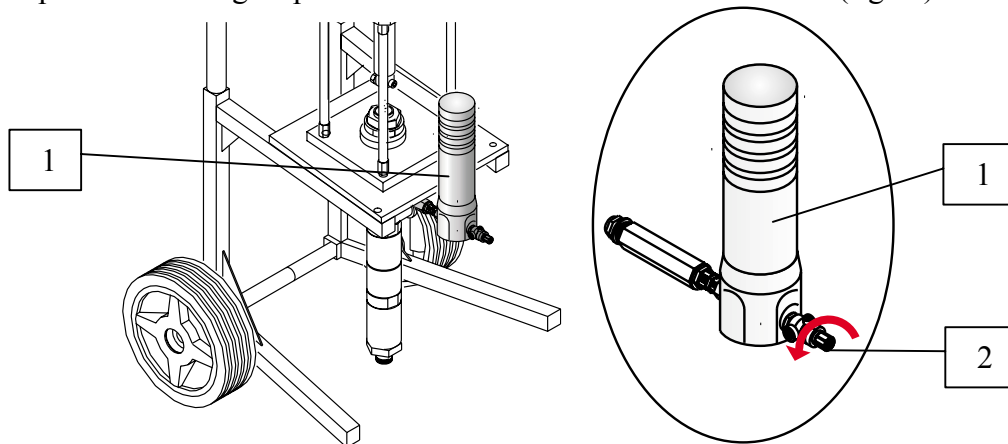

Fig.28
6) Open the discharge tap to remove all of the air inside the circuit (fig.28).